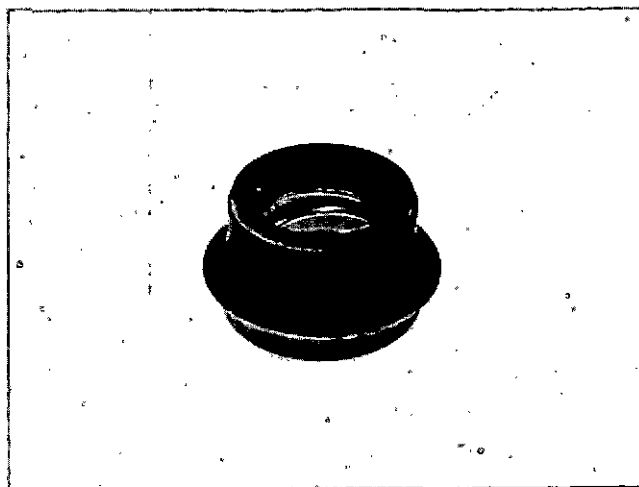

Fig. 8-1-2, V40811. Carbon face seal
5. Examine carbon face seal carefully to make sure it is not cracked or chipped. Fig. 8-1-2. Usually it is best to install a new seal.